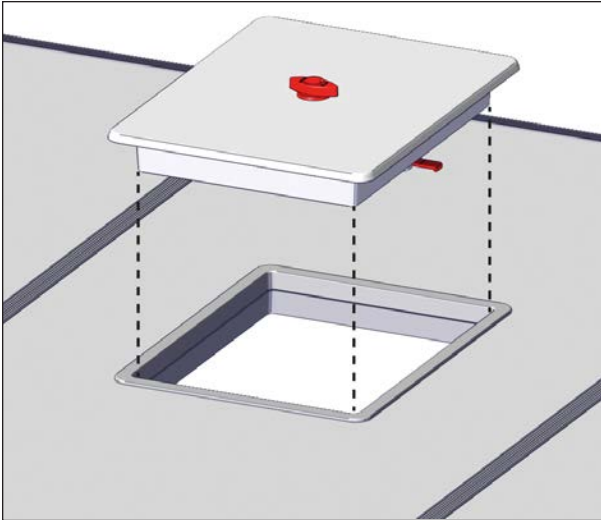

FIGURE 30: ESCAPE HATCH INSTALLATION
14. Turn the escape hatch handle to retract the arms and install it into the escape hatch opening of the center panel, see Figure 30.